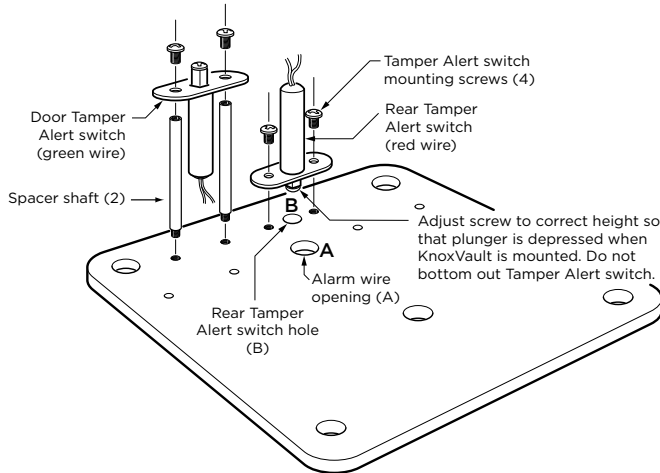

Figure 1
2. Position KnoxVault on wall so wires from alarm panel protrude into box through hole (A) in back plate. See Figure 1, 2 and 3.
4. **Door Tamper Alert switch:** Screw the two spacer shafts to screw holes, then screw door Tamper Alert to the end of the spacer shafts with provided screws as shown in Figure 1. (Door Tamper Alert switch used in both the Recess and Surface Mount KnoxVault 4400.)
Rear Tamper Alert switch: Align rear Tamper Alert plunger in back plate, hole (B), as shown in Figure 1. Check length of plunger and, if necessary, adjust plunger screw to give proper travel. Check plunger contact by GENTLY pressing the bracket flush against the back plate. (Rear Tamper Alert switch only used in the Surface Mount KnoxVault 4400.)